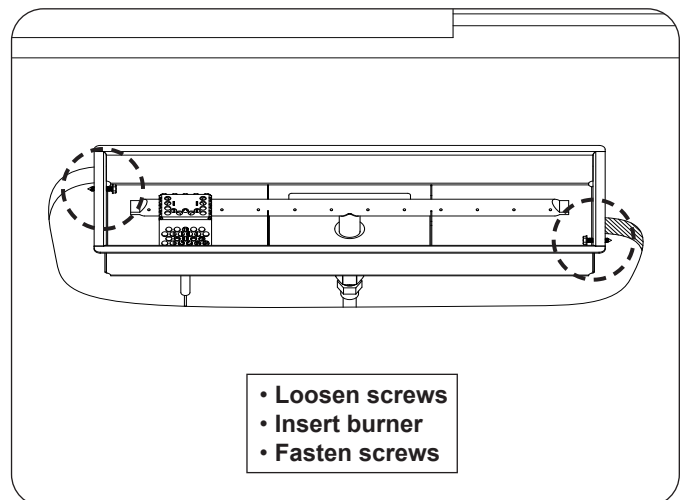

Fig. 22-3 Secure burner
10. Loosen the 2 screws on the sides of the burner, until it fully drops into the opening. Once the burner is resting flush, refasten the screws. See Fig. 22-3.